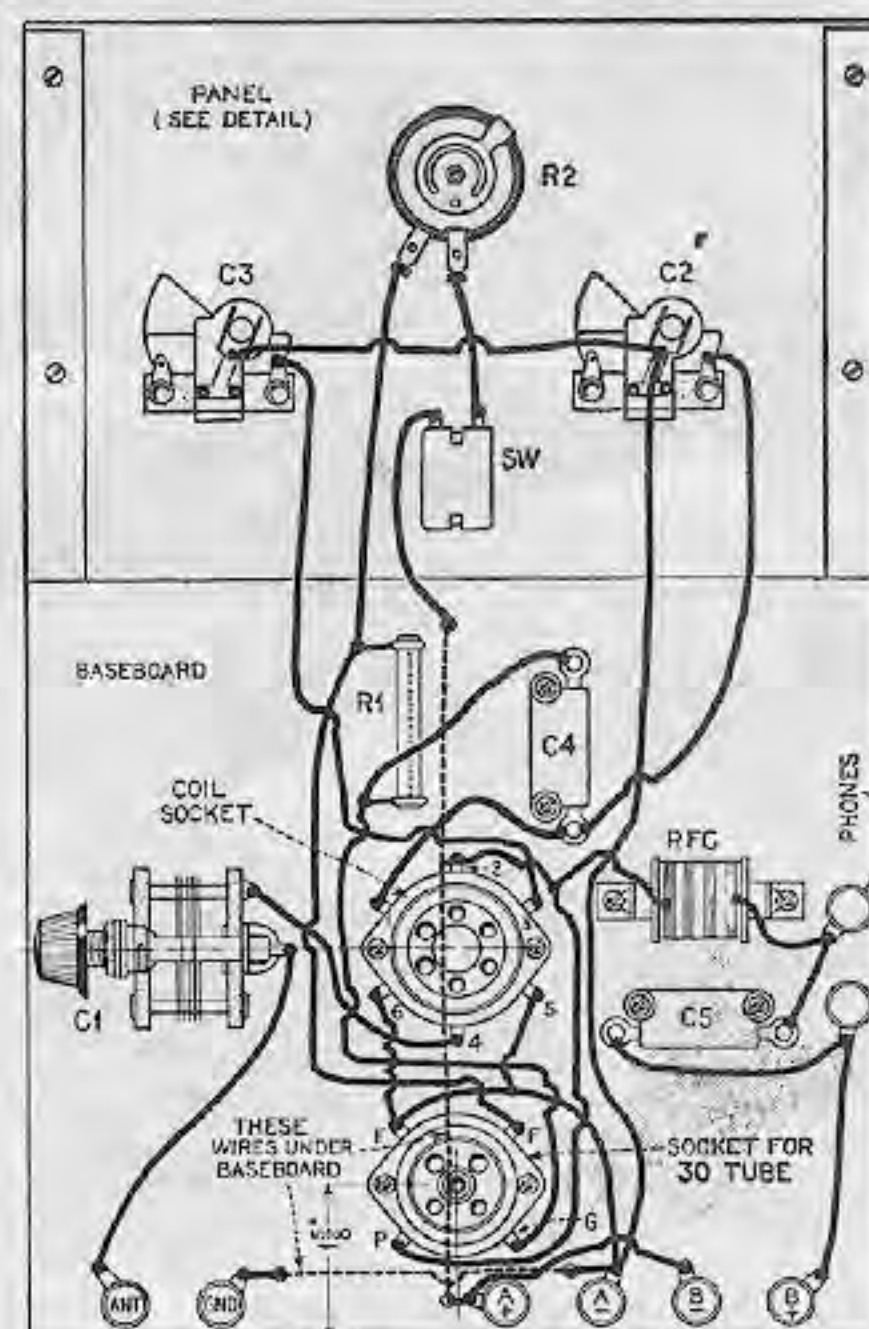
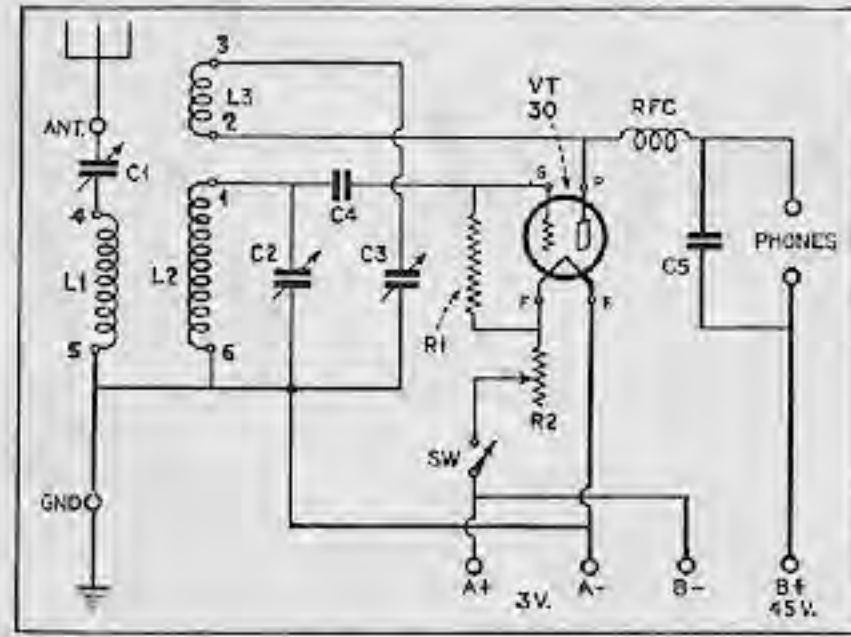

Fig. 1
Fig. 2
- 8 Binding posts, suitably marked for connections as shown in Figure 1.
to impose a strain on the panel. After the panel is drilled and is mounted on the baseboard, then all of the parts can be mounted in the positions indicated on the picture wiring diagram, Figure 1.
For the novice constructor it will be more instructive if the circuit diagram of Figure 2 is studied in conjunction with the picture wiring diagram of Figure 1. One can readily learn more by attempting to wire the receiver from the schematic diagram. This involves a little study but makes for a more complete understanding of the receiver and its circuits. If wired up in this way, the wiring can then be checked against the picture wiring diagram to avoid any possibility of error.
As will be noted from Figure 2, the plug-in coils employed with this receiver